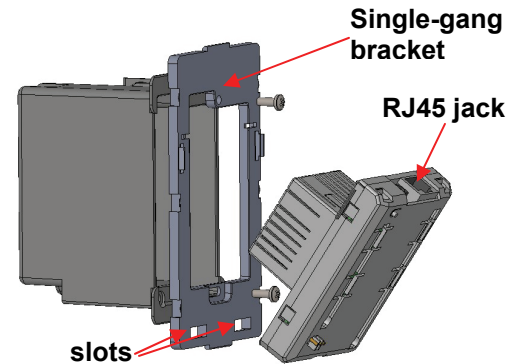

Figure 4
- D. Terminate the Cat 5 cable with an RJ45 plug and connect it to the RJ45 jack on the DA1101. The DA1101 is then snapped into the mounting bracket by first inserting the two tabs on one end into the slots on the bracket and tilting it until it is flush with the bracket, where it should snap into place (see **Figure 4**).
- E. If this is a triple-gang installation, line the feet on the triple gang bracket up with the indentions inside the round cover, and snap that cover in place (see **Figure 4**). There is a protrusion inside the round cover that allows it only to be installed in the correct orientation. If this is a single-gang installation, simply hang the top of the rectangular cover on the single-gang bracket and tilt the cover to snap it into place.